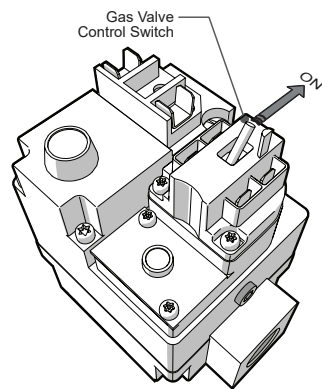

Figure 19. Gas Valve
- Toggle gas control switch to OFF position. See *Figure 19*.
- Wait five (5) minutes to clear out any gas, then smell for gas, including near the floor. **IF YOU SMELL GAS, STOP!** Follow instructions in Section 8.1.1.